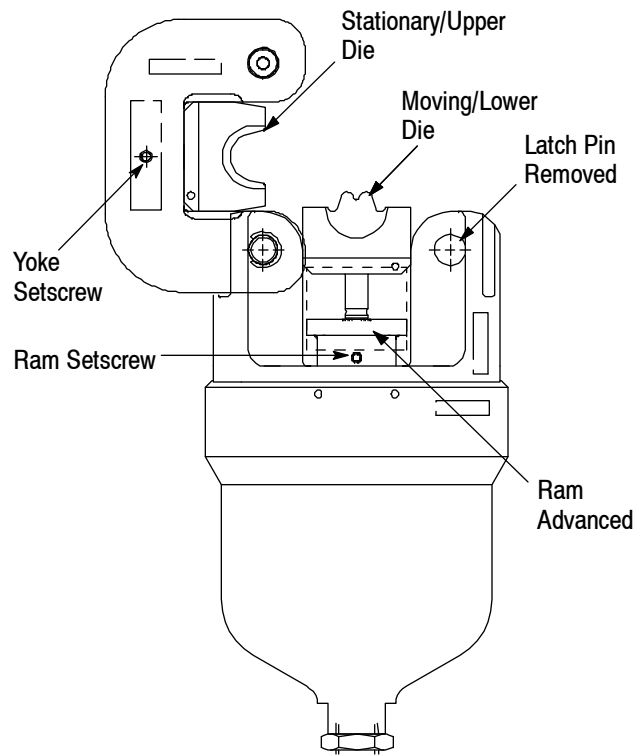

Figure 2
4. DIE INSERTION AND REMOVAL (Figure 2)